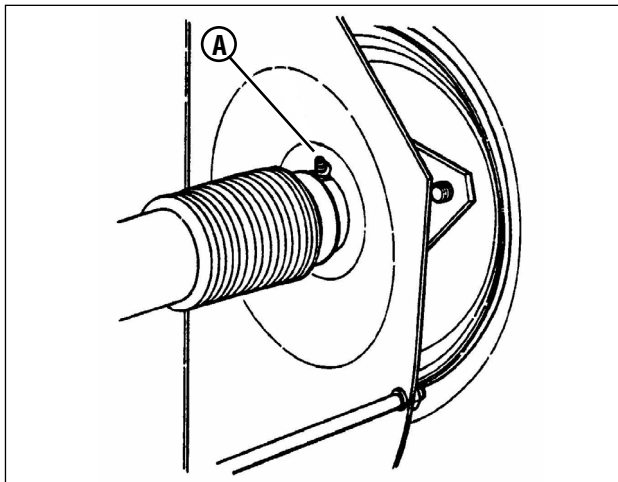

Figure 27: Rear axle grease fitting
1. The grease fitting (A, Figure 27) on the left rear axle bearing requires three shots of general purpose grease from grease gun.